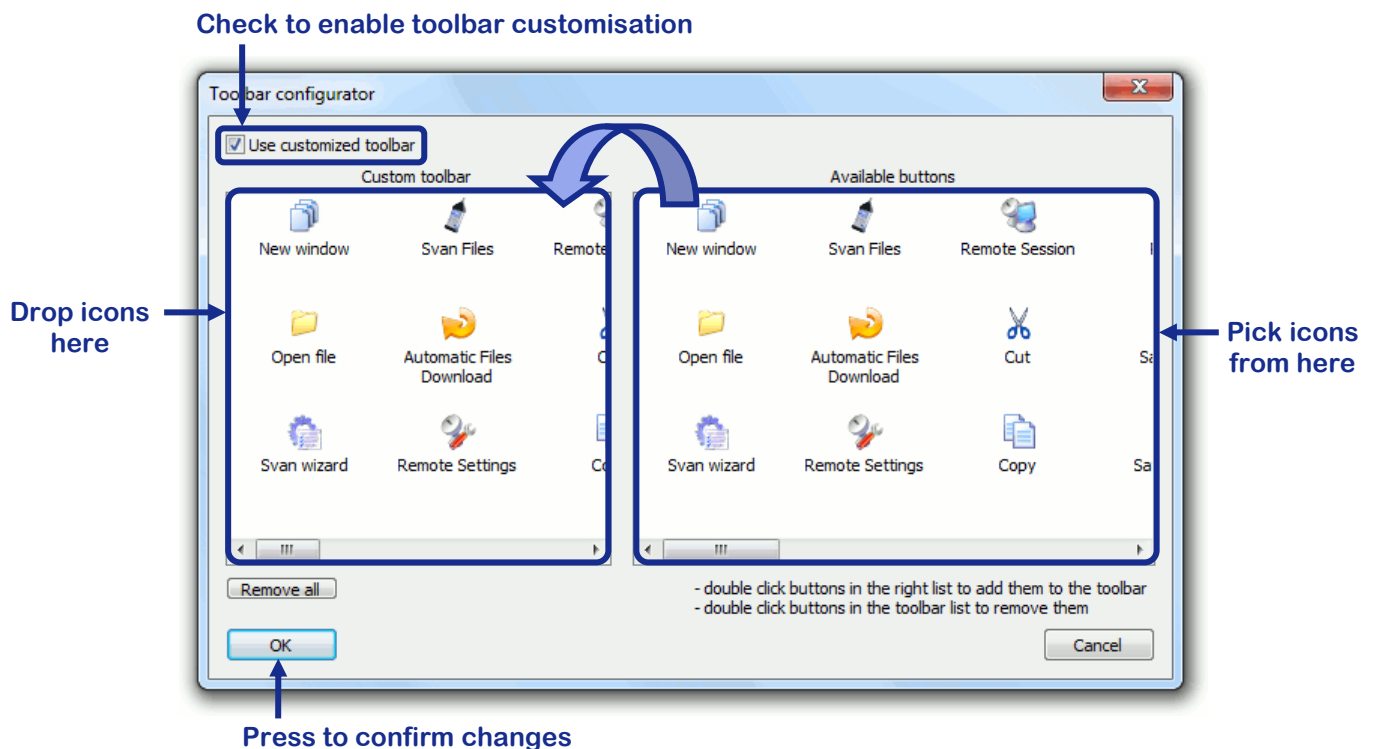

Fig.7.2. *Toolbar configurator* dialog box.
- Drag-and-drop icons from the *Available buttons* list located at the right side of the window to the *Custom toolbar* list located at the left side of the window, as illustrated in Fig.7.2.